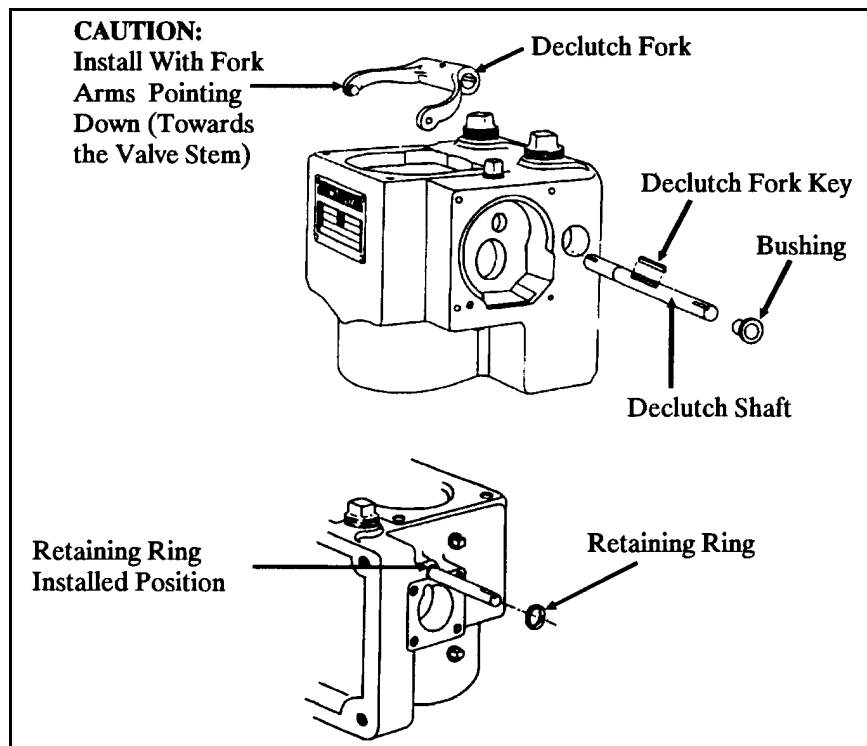

Figure 4-37 Declutch Shaft/Fork Assembly Installation
18. Declutch Shaft and Fork Assembly Installation Refer to Figure 4-37